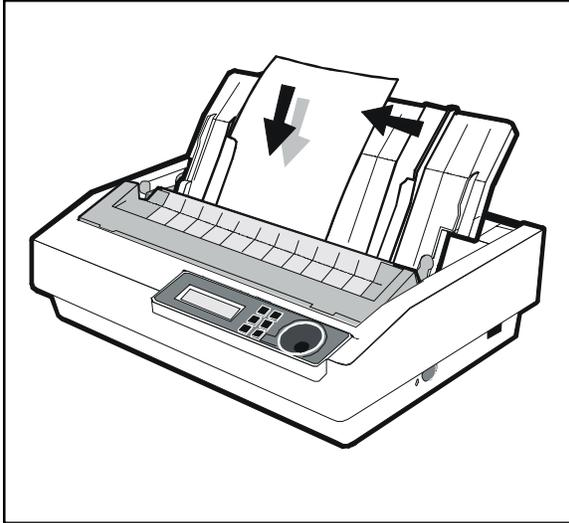

Figure 3-2. Loading a Single Sheet
2. Slide the left paper edge guide on the paper support so that it aligns with the "0" mark (|↑) on the paper scale, as shown in figure 3-2.
3. Set a single sheet into the left paper edge guide and slide the right paper edge guide up against the right edge of the paper, as shown in figure 3-2.